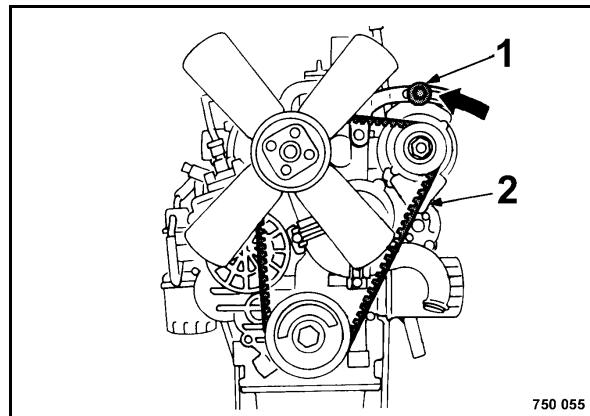

Fig. 102
- Slacken the fastening screws 1 and 2 (Fig. 102) slightly.